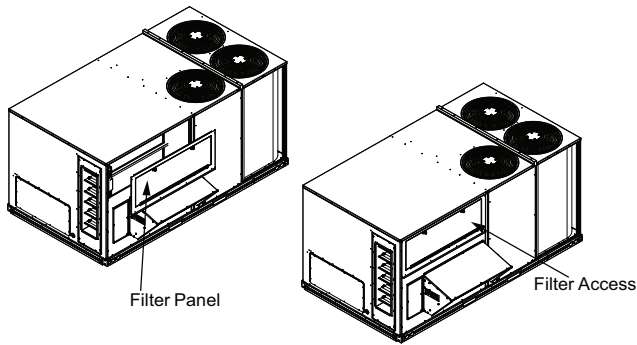

Fig. 12 — Install the Filter Access Panel
24. Attach filter access panel above O/A panel assembly. Slide under RTU (Packaged Rooftop Unit) top flange then drop down until bottom mount holes align with top holes on O/A assembly. Fasten with provided sheet metal screws. (See Fig. 12.) Continue at Step 26.